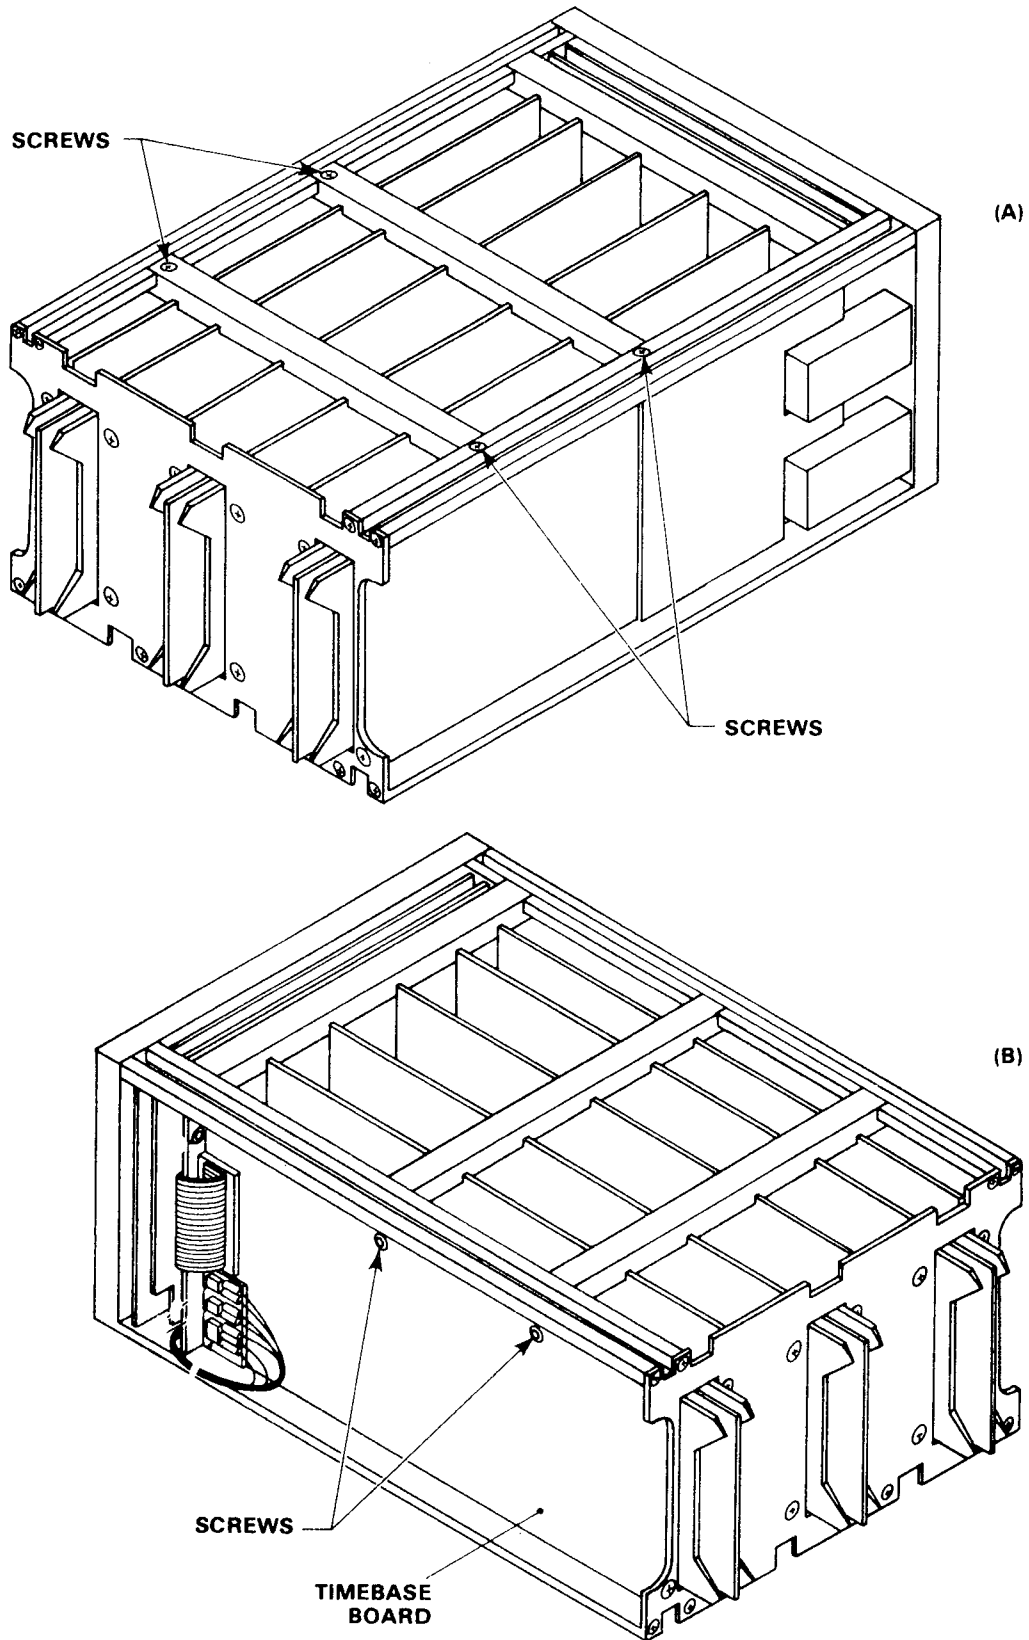

Fig. 1. Circuit Board Guide Removal.
- () 2. Remove the center and rear circuit board guides as follows (refer to Fig. 1):